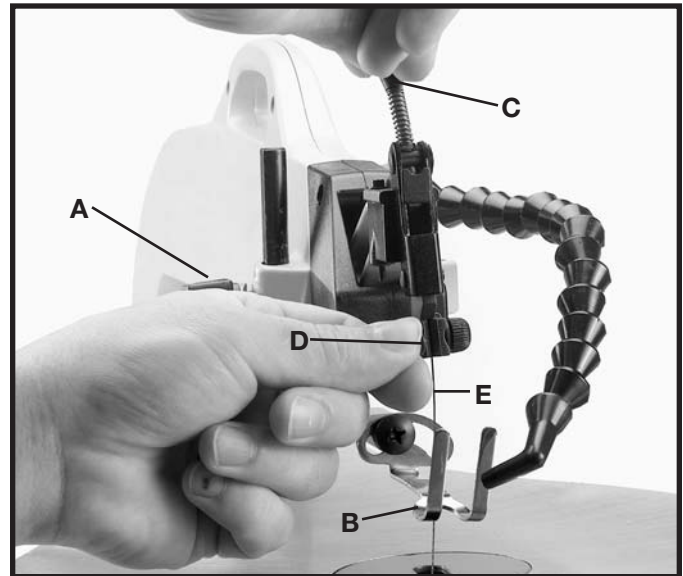

Fig. 21
Loosen lock handle (A) Fig. 21, and raise the holddown (B). Release blade tension by moving the blade tension lever (C) to the horizontal position as previously explained. Release upper blade holder lever (D) as previously explained. This will release the blade (E) and allow you to thread the blade through the next hole in the pattern. Replace blade in upper blade holder and move blade tension lever to the vertical position to re-apply blade tension. Lower holddown and you are ready to make the next cut.
5. Apply lightweight grease or anti-seize to lubricate the tensioning lever (C) Fig. 21 where it pivots on the upper chuck.